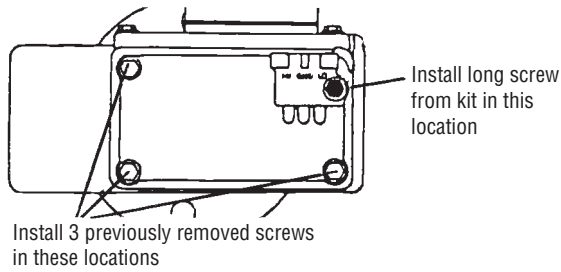

Fig. 2 - Cover Screw Location
6. Install the cover capscrews as shown in Fig. 2.